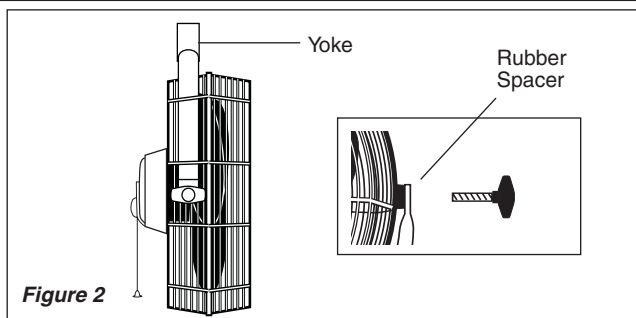

Figure 2
6. Align Yoke with grill mounting threads. Loosely attach one Grill Knob and one Rubber Spacer to the Head Assembly. Attach the other Grill Knob and Rubber Spacer to the Head Assembly and FIRMLY tighten. Return to the first Grill Knob and FIRMLY tighten. (**Figure 2**)